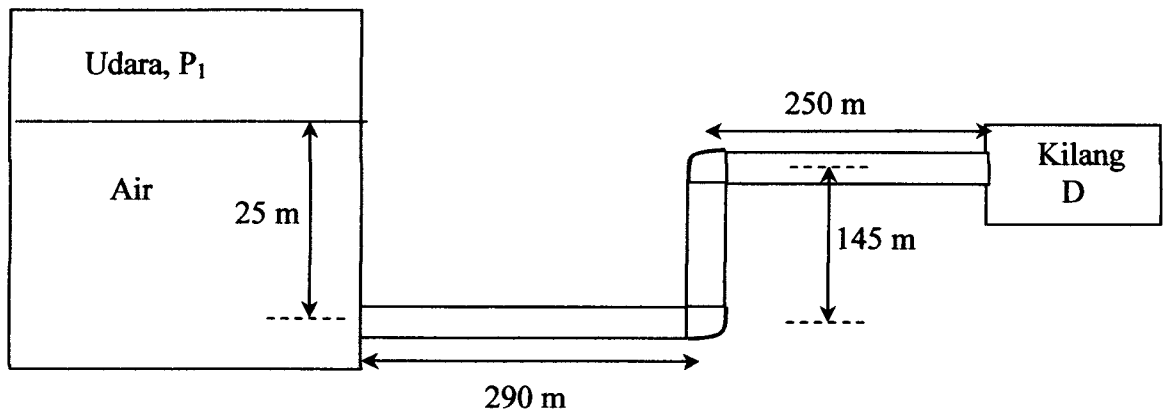

Figure Q4/Rajah S4
- (b) A factory B in Figure Q4 conveys water from a closed tank through a pipe with 150 mm diameter at rate of $0.1 \text{ m}^3/\text{s}$. Given that kinematic viscosity of water, ν is $0.113 \times 10^{-5} \text{ m}^2/\text{s}$, pipe friction factor, f is 0.016. and coefficient of minor losses for inlet and bend of pipe are 0.05 and 0.4 respectively.